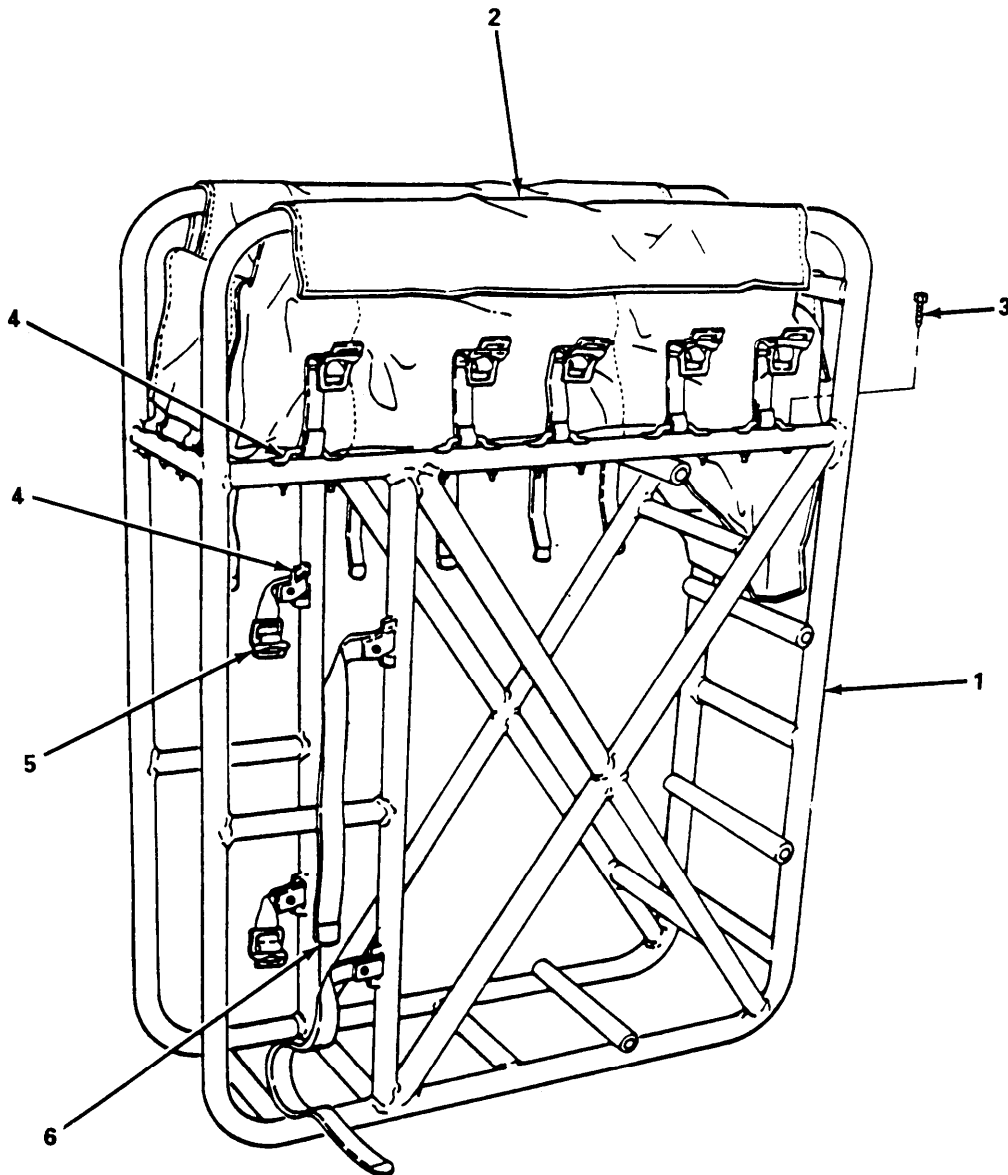

Figure 4-15. Frame Assembly, Removal/Installation.
a. Repair. (figure 4-15)
- (1) Inspect frame for crack, damaged or missing parts.
- (2) Clean frame with cleaning solvent, allow to dry.
- (3) If container (2) is damaged, remove twenty-eight screws (3), fourteen loops (4) and remove container (2). Position new container (2) on frame (1) and secure with fourteen loops (4) and twenty-eight screws (3).
- (4) If any straps (5 or 6) are damaged, remove two screws (3) and one loop (4) per strap. Remove damaged strap(s). Position new strap(s) (5 or 6) on frame (1) and secure with loop (4) and two screws (3) per strap.
- (5) Repair frame (1) by straightening or painting frame. Refer to TM 43-0139 for painting.
b. Replace. (figure 4-15)
- (1) Removal.
- (a) Remove discharge hoses from frame (1).